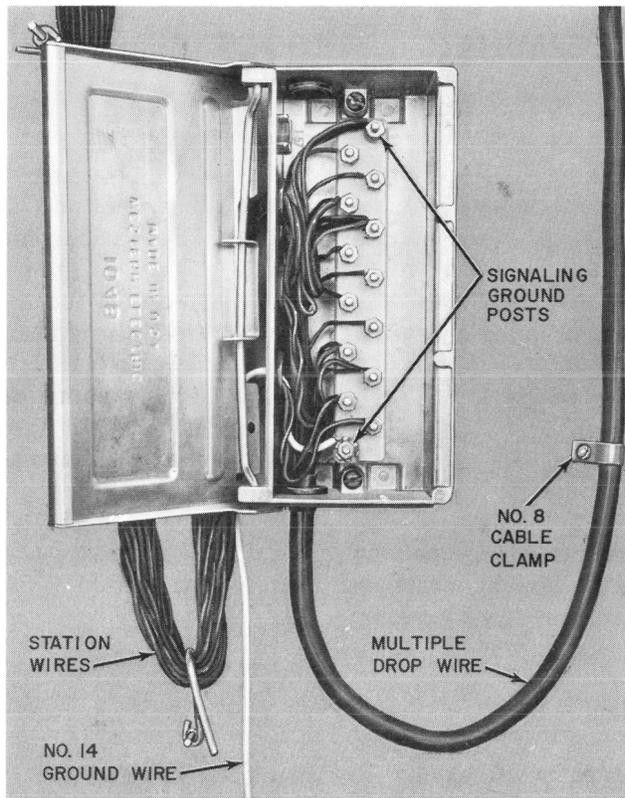

Fig. 2—Wiring of 104B Wire Terminal
2.02 The 104B wire terminal shown in Fig. 2 employs a mounting which is an aluminum die cast box, with a toggle-type cover similar to the cover on the 104A. It is equipped with a terminal block having facilities for connecting 6-pair multiple drop wire. Two binding posts, one at each end of the block, are strapped together internally and are used for signaling grounds.
- (1) Attach the 45A bracket to mounting surface with No. 14 RH galvanized wood screws or equivalent. Screws shall be of sufficient length to mount securely.
- (2) Set the terminal in position on the 45A bracket and secure with four self-tapping screws.
3.02 104B: The 104B wire terminal can be mounted either horizontally or vertically. Two mounting holes are provided. (Fig. 2). Use No. 14 RH galvanized screws of sufficient length to mount securely.